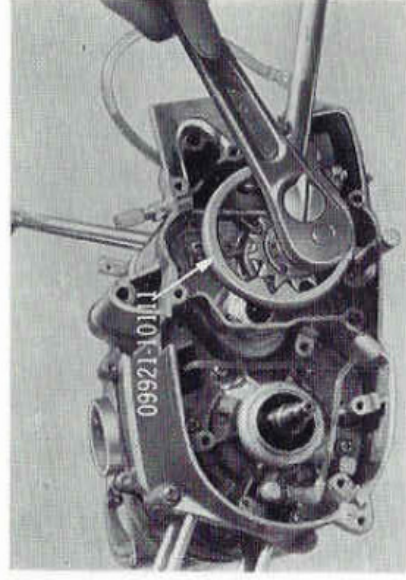

Fig. 8-2-7
7. Straighten the engine sprocket washer with a chisel and hammer. Hold the sprocket with an engine sprocket holder (special tool 09921-10111) and loosen the nut with a 29 mm wrench. (Fig. 8-2-7)